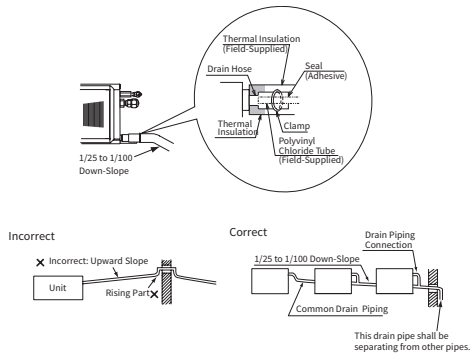

Fig.6.1 Drain Piping
- (1) The position of the drain piping connection is shown in Fig.6.1.
- (2) Prepare polyvinyl chloride pipe with a 32mm outer diameter.
- (3) Fasten the tube to the drain hose with the adhesive agent and the factory-supplied clamp. The drain piping must be performed with a DOWN-SLOPE pitch of 1/25 to 1/100.
- (4) Insulate the drain pipe after connecting the drain hose.